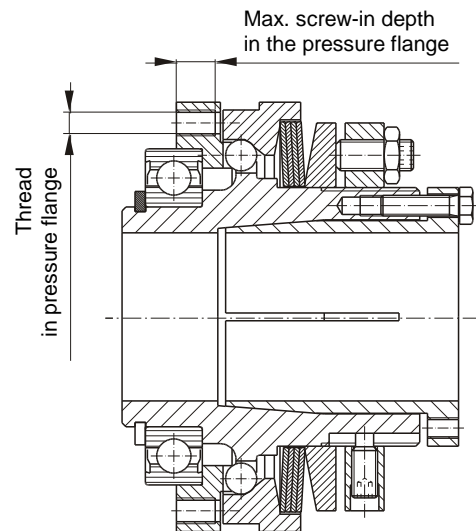

Fig. 3
Please observe the maximum permitted screw-in depth in the pressure flange (2) as well as the connection dimensions "a" and "e" for the output elements, see Figs. 3 or 4 and Table 12.